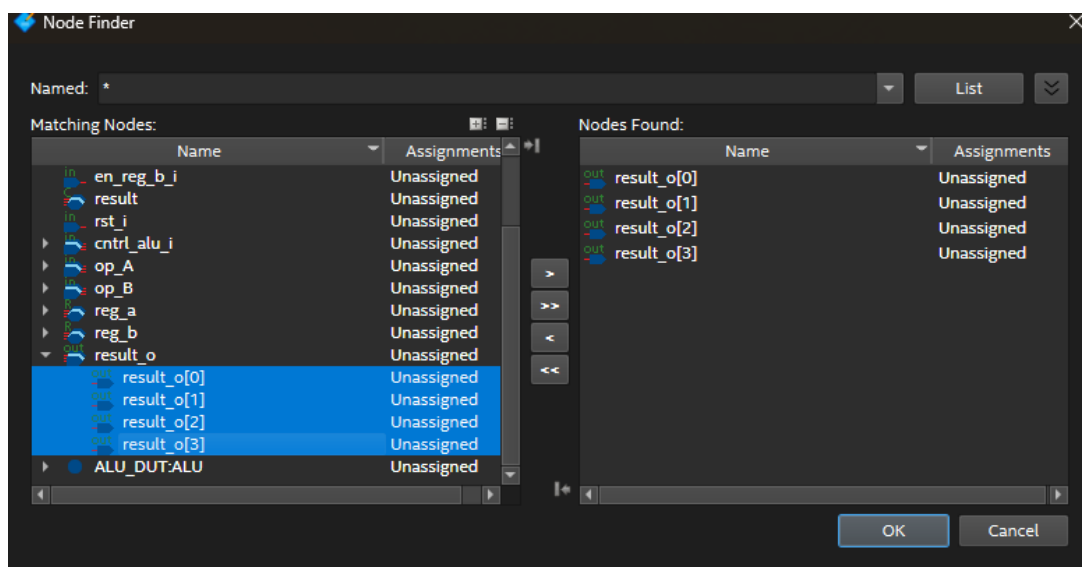

Figure 12. Assign multiple bits
27. For **multi-bit** signals, each bit must be assigned to an individual physical pin. In the Node Finder window, you can expand the multi-bit variable and move each bit to the selected list. An example is shown in Figure 12.